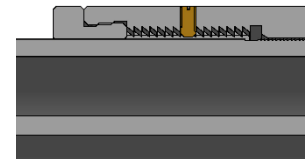

Fig 8
L-12.5) Install lock ring (3) onto setting sleeve (27) until outer threads contact threads in setting chamber (30). Rotate setting chamber (30) to thread lock ring (3) into setting chamber leaving enough room for setting chamber cap (22) to be installed (Fig. 8).